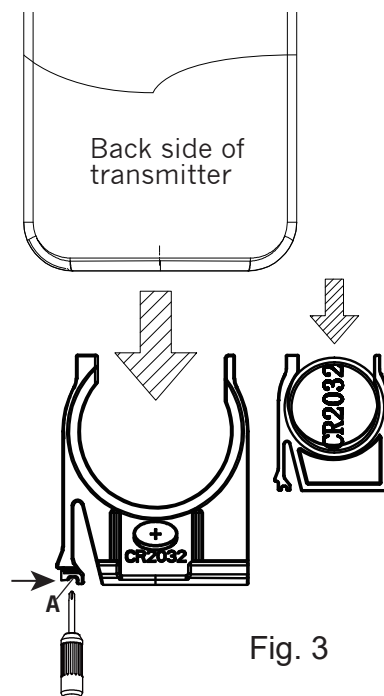

Fig. 3
1. Remove the battery seat from the bottom of remote control transmitter and install battery. Replace the battery seat. (Fig. 3)